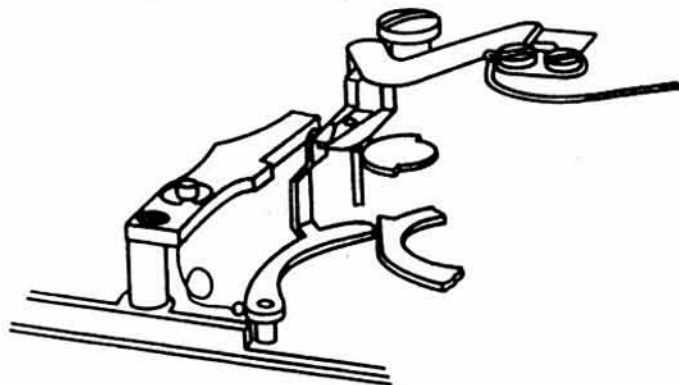

Figure 1-14. Flash Bulb Circuit, Contacts Closed.
- (2) *Bulb circuit.* The contact arm cam (fig. 1-14) on the main shutter roller assembly, rotates when the shutter release knob is depressed. Rotation of the cam moves the spring-loaded contact arm toward the synchro adjusting lever and closes the circuit. When the first shutter curtain has traversed the film aperture, the high point of the contact arm cam is resting against the contact arm. This moves the arm away from the synchro adjusting lever and opens the circuit.